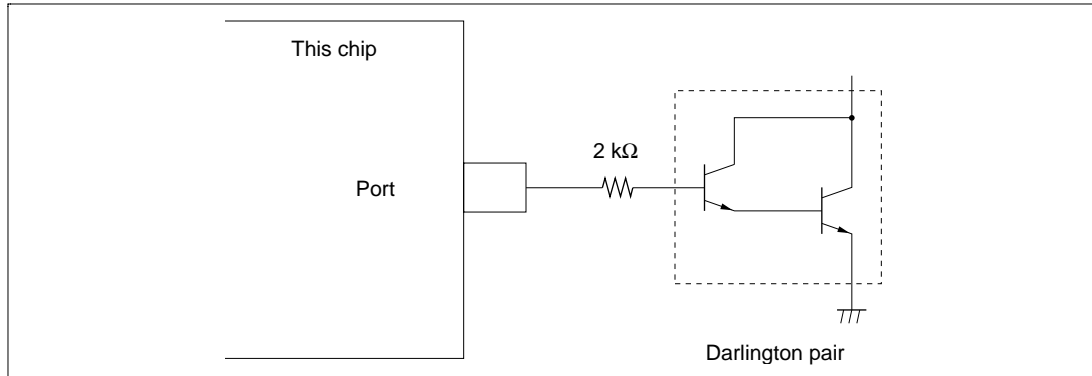

Figure 22.50 Darlington Pair Drive Circuit (Example)
2. When driving a Darlington pair or LED, always insert a current-limiting resistor in the output line, as show in figures 22.50 and 22.51.